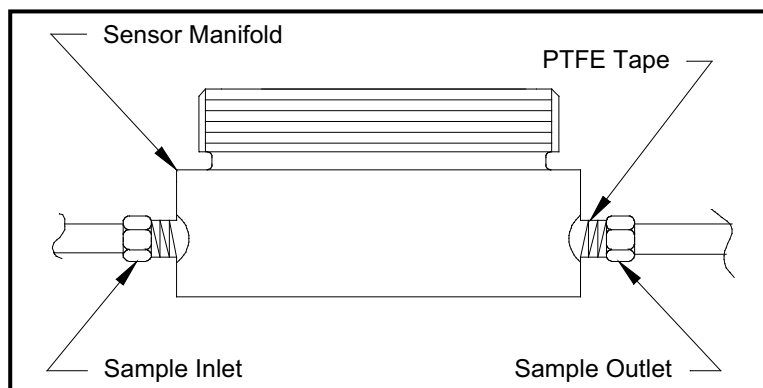

Figure 4: Sensor Manifold Installation
3. Using PTFE tape as a sealant, connect the sample gas inlet and outlet to the 1/8" NPT ports on the sensor manifold (see Figure 4 below). Either port may be used as the inlet or the outlet, as the direction of flow does not matter.